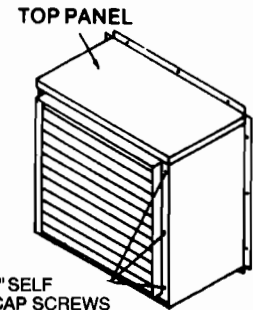

Figure 4.
9. Slide the fan wall housing through the inside of the framed opening in the wall. Fasten with bolts or screws provided by the installer. Position the box so the top panel, having both sides turned down, is on top. Caulk between the top flanges and the wall (see Fig. 4). Fan wall housing can also be attached to outside of framed opening utilizing the mounting flanges.
10. Mount automatic shutter to outside of fan wall housing with number 14 x 5/8" self tapping hex headed cap screws furnished. Insert top edge of shutter frame under top flange of fan box (see Fig. 4).